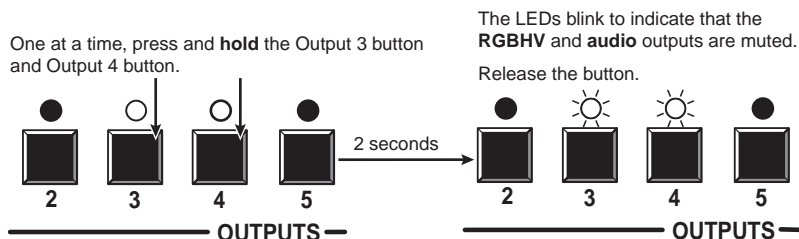

Figure 3-30 — Mute the outputs
- Press and **hold** the Output 3 button and the Output 4 button (figure 3-30) for approximately 2 seconds until the LEDs begin to blink. The output 3 and output 4 video and audio signals are muted.